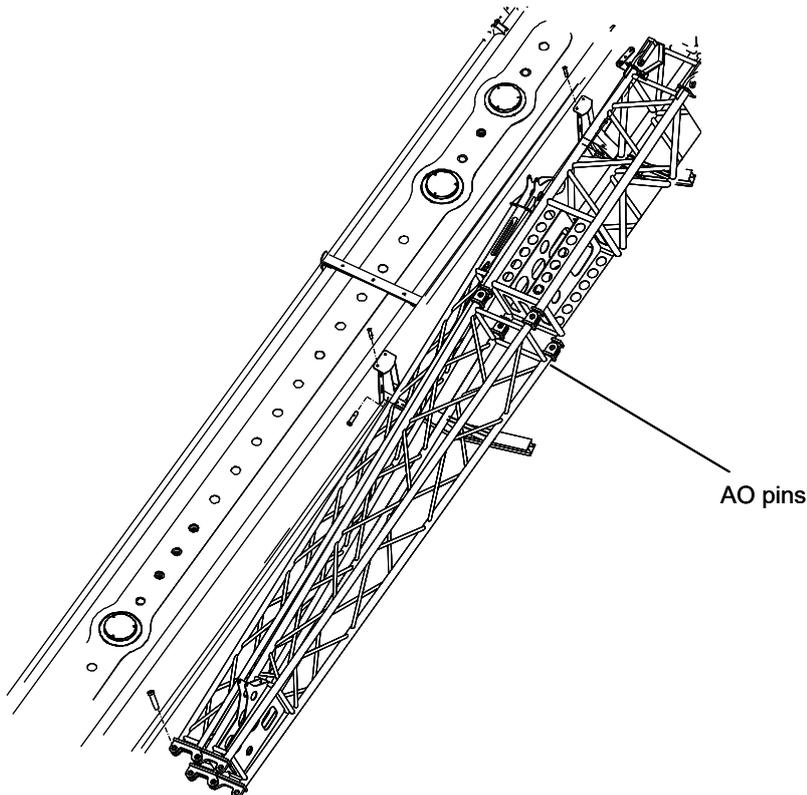

Figure 5-18 Assembly of tip boom
- f) Remove 4 AO pins connected adapter II to jib section 1. Refer to Figure 5-18.